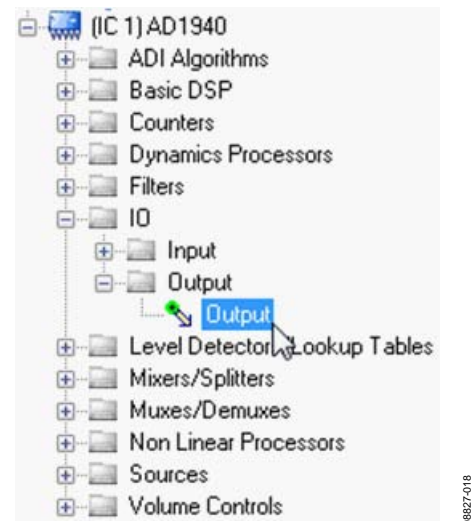

Figure 18. Output Cell Selection
4. In the **Tree Toolbox**, navigate to the **IO > Output** folder and select an **Output** cell (see Figure 18).